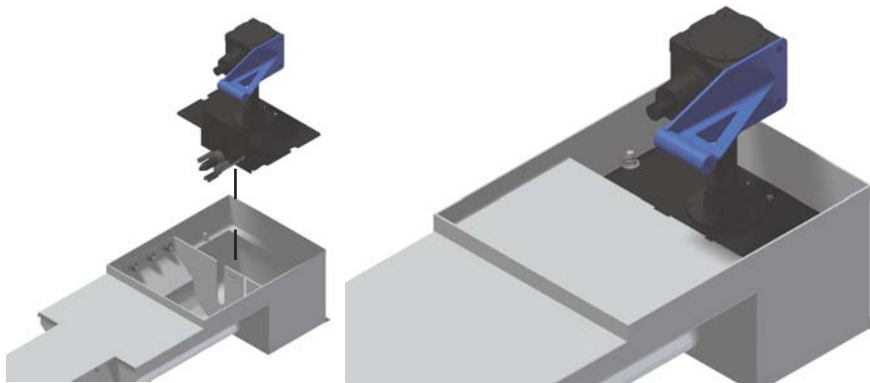

Figure 22
Lower it into the U-Trough's Center Sump section (see **Figure 22**). There will be two (2) studs, on the sides, that the Gearbox Assembly will fit on top of.